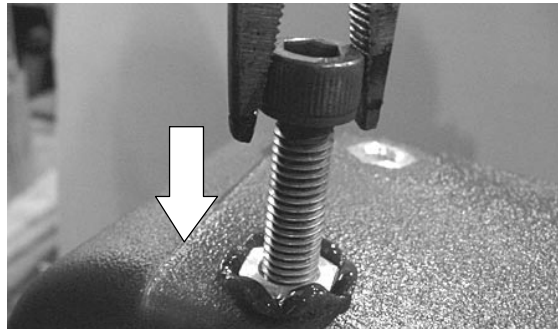

Fig. 4
3. Carefully thread the new insert onto the hot screw. Wait 5-10 seconds then slowly press the insert straight into the cavity (Figure 4). The insert should be flush with the plastic surface. Hold the insert in position until the plastic cools. Repeat step 2 if necessary.